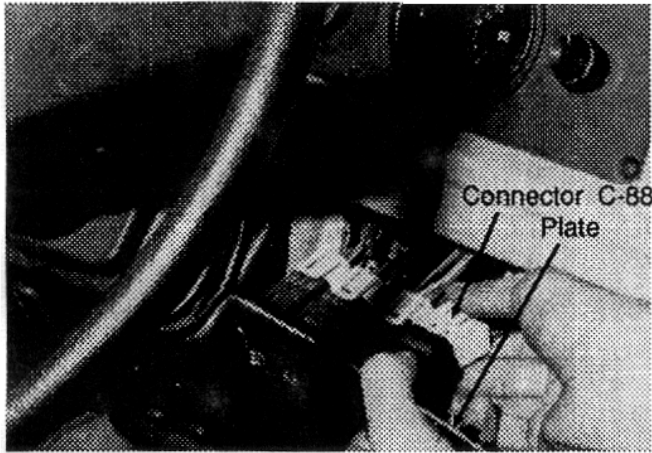

Figure 6
13. Remove the four (4) Phillips head screws holding the mounting plate of the warning light switch, and move plate from dashboard. Disconnect connector C-88 at the warning light switch (see figure 6).